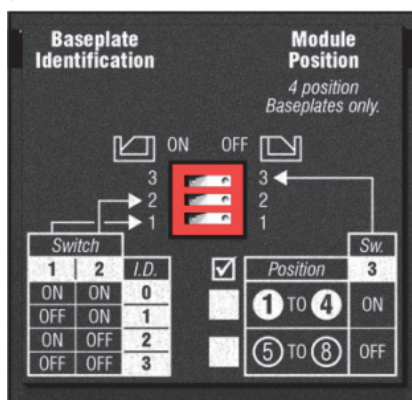

Figure 3. Modular Baseplate ID Switches (For FBM Baseplates)
- ▶ The number of the baseplate in the group, as set by means of the baseplate Identification (I.D.) DIP switches on each baseplate (see Figure 3). Baseplates should be assumed to have this switch unless otherwise specified in the sections below.
- ▶ The number of the baseplate in the group, as set by means of the baseplate Identification (I.D.) DIP switches on each non-FCP280 baseplate (see Figure 3). Baseplates should be assumed to have this switch unless otherwise specified below. For the FCP270 used with the FEM100, this is a hexadecimal number as these configurations can support up to 16 baseplates for one control processor, via 1-4 expansion ports.